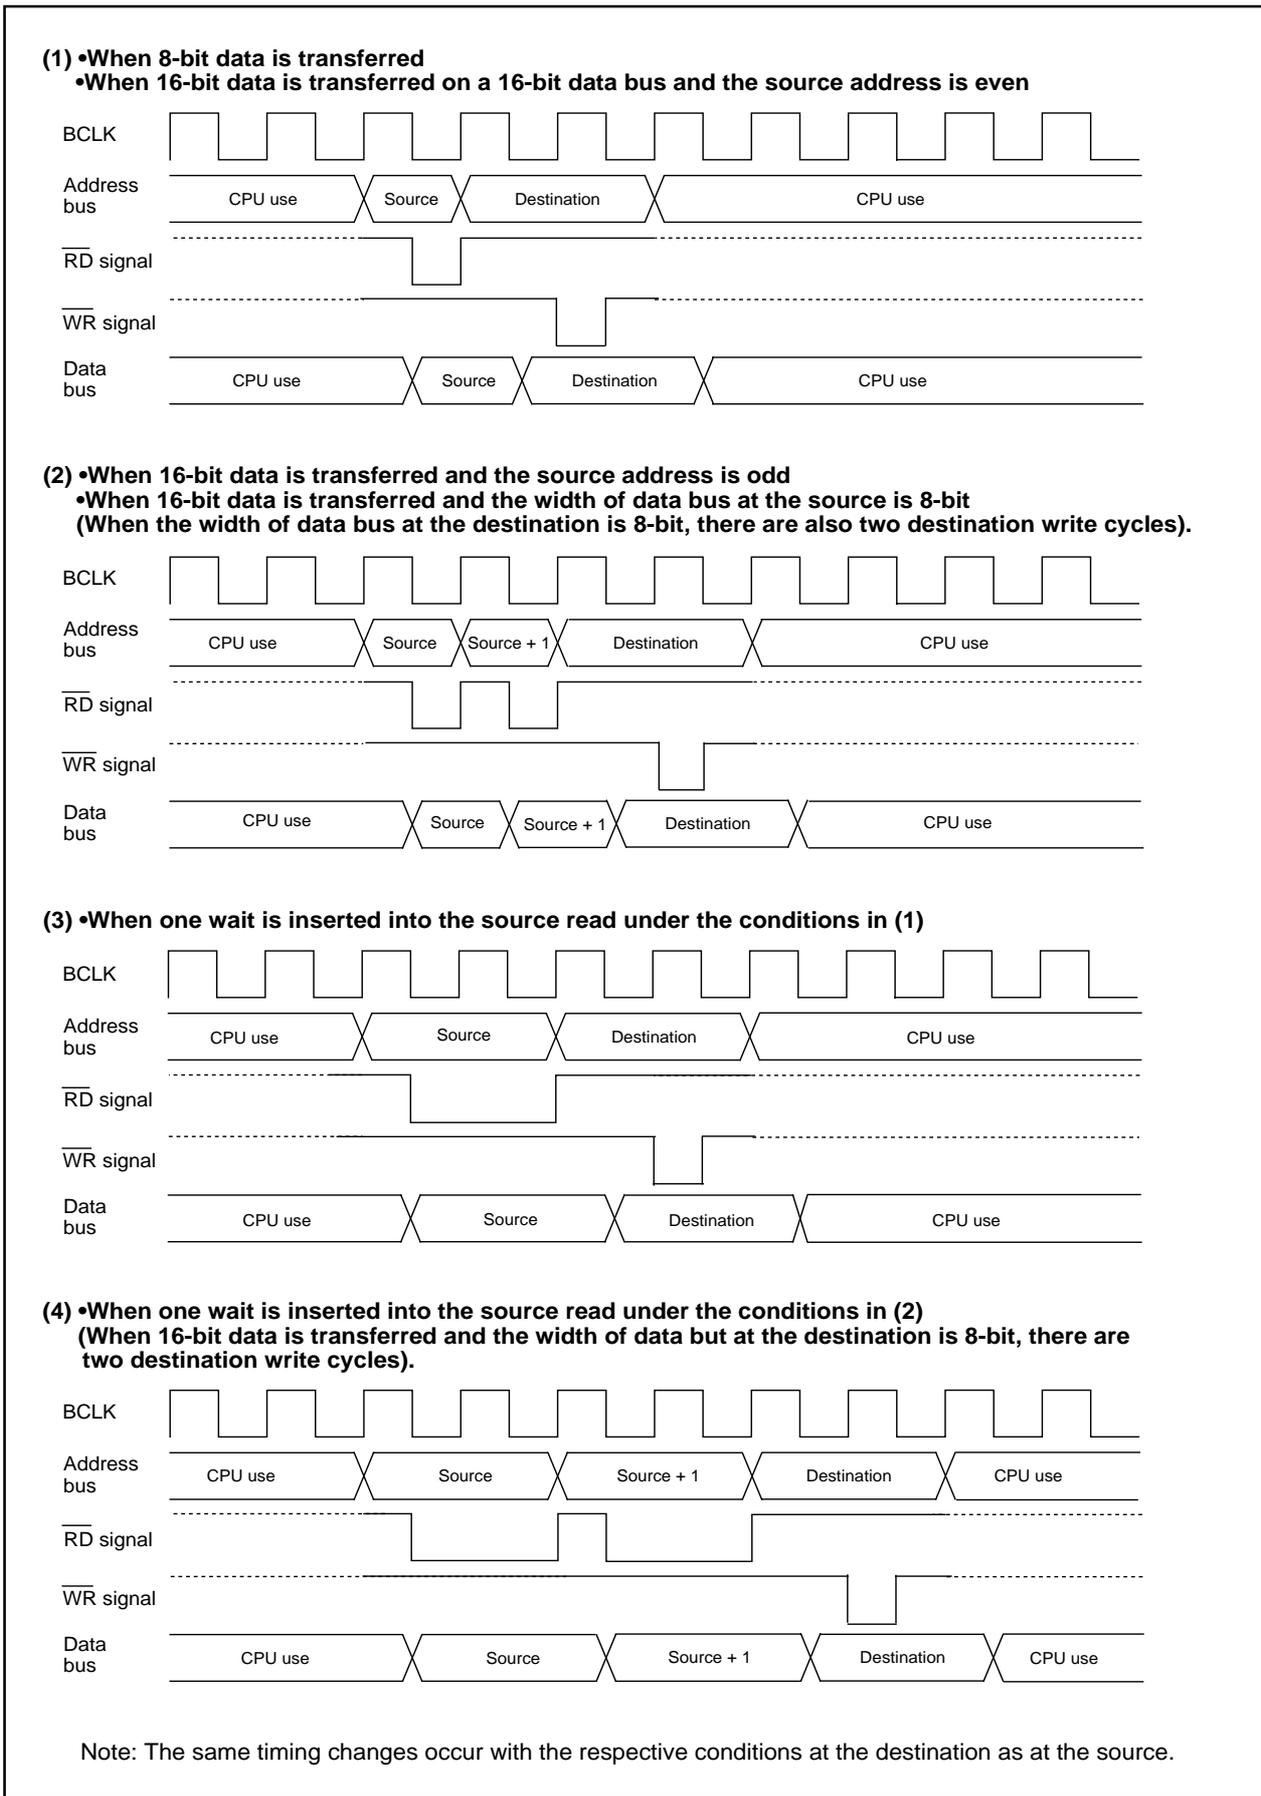

Figure 1.11.6. Example of the transfer cycles for a source read
Figure 1.11.6 shows the example of the transfer cycles for a source read. Figure 1.11.6 shows the destination is external area, the destination write cycle is shown as two cycle (one bus cycle) and the source read cycles for the different conditions. In reality, the destination write cycle is subject to the same conditions as the source read cycle, with the transfer cycle changing accordingly. When calculating the transfer cycle, remember to apply the respective conditions to both the destination write cycle and the source read cycle. For example (2) in Figure 1.11.6, if data is being transferred in 16-bit units on an 8-bit bus, two bus cycles are required for both the source read cycle and the destination write cycle.